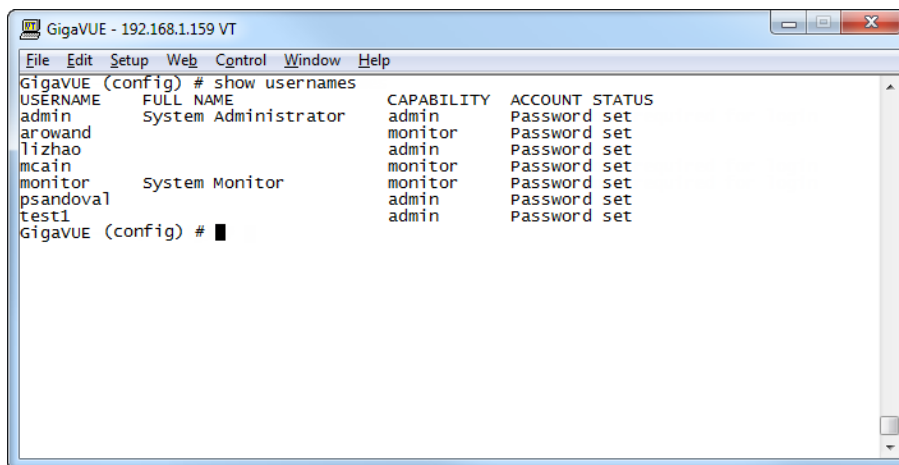

Figure 5 Reviewing the User List
- Once you have configured these basic user accounts, use the **show usernames** command to review your settings. Figure 5 Reviewing the User List shows some sample **show usernames** output after several users have been added.